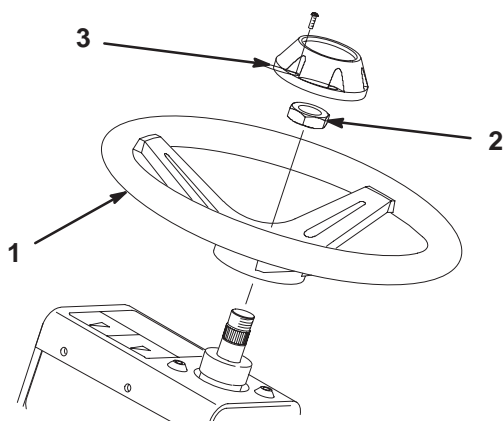

Figure 5
2. Secure the steering wheel to the shaft with the jam nut (Fig. 5) and tighten it to 35 ft.-lb.
3. Install the cap to the steering wheel with the screw (Fig. 5).